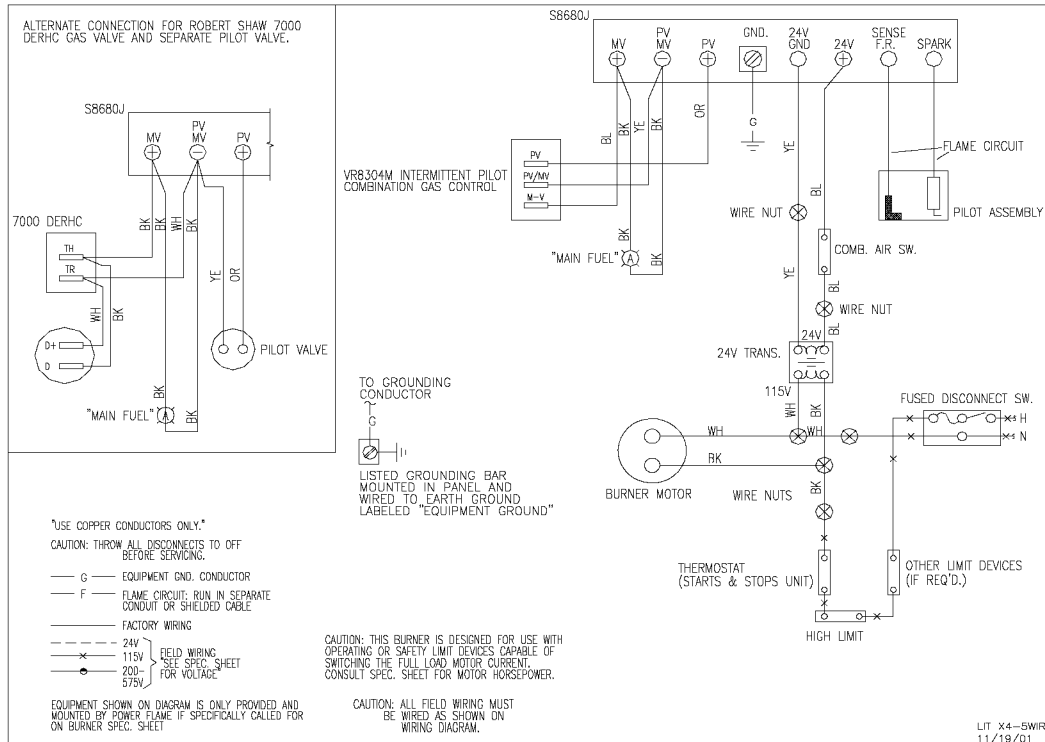

Figure 5: Typical Wiring Diagram for S8680J with Proved Pilot Ignition
- 6.1 Refer to wiring diagram shipped with burner and typical wiring diagrams **Figures 5 and 6**. The two power leads (black and white) are located inside the burner panel.